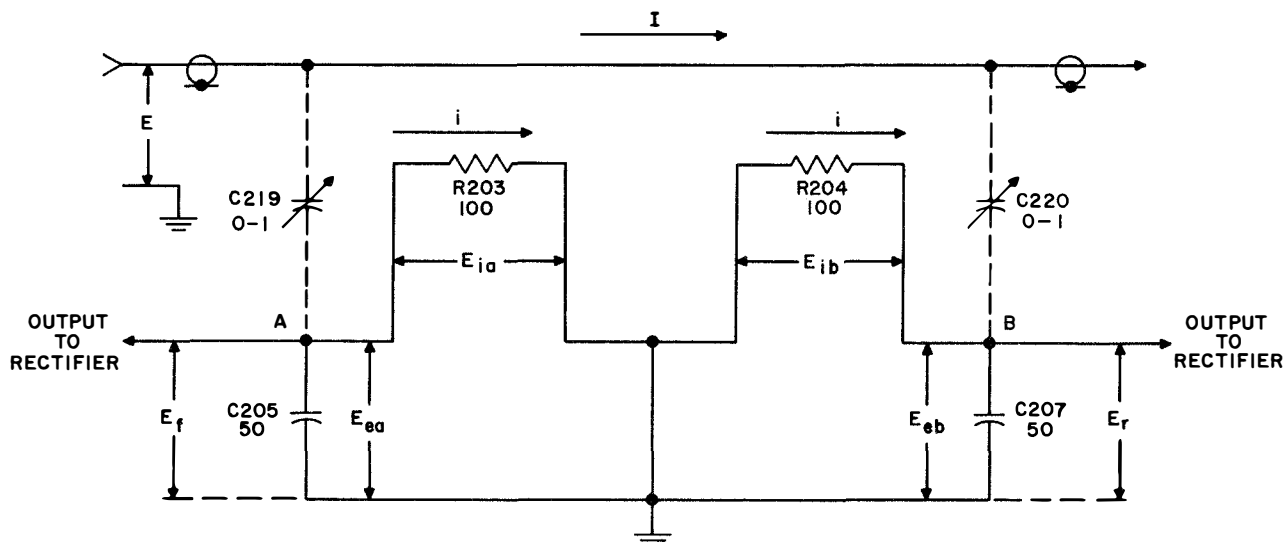

Figure 4-6. Monitor R-F Circuit, Simplified Schematic Diagram
(a) Refer to figure 4-6. The figure shows the coupler unit in input transmission line 1. Within the coupler unit, the center conductor of the transmission line is exposed, with the coupler unit case forming the outer conductor. Resistors R203 and R204 are positioned parallel to the exposed center conductor.
(c) Transmission line voltage (E) is capacitively coupled to resistors R203 and R204. This capacity coupling can be assumed as lumped between the transmission line and the ungrounded ends of the resistors, points A and B. The theoretical lumped capacitors are shown in figure 4-6 as C219 and C220. A voltage proportional to the line voltage appears across capacitors C205 and C207. Because the capacitors are equal in value, the capacity coupling to both resistors is equal, and the voltages across C205 and C207 are equal and in phase. Each of these voltages is composed of two components, one proportional to forward wave voltage, and one proportional to reflected wave voltage. Like the current components, the forward wave voltage component is always greater than the reflected wave voltage component, and the components are related by some phase angle ( $\phi$ ). The characteristics of the forward and reflected waves are such that the voltage angle ( $\phi$ ) is always the supplement of the current angle ( $\theta$ ); i.e.,  $\phi + \theta = 180$  degrees.